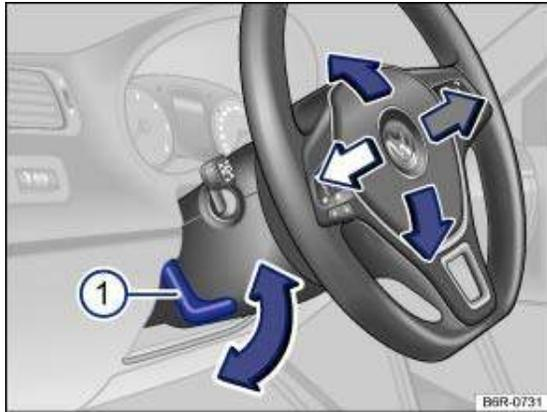

Fig. 45 Adjusting the steering wheel position mechanically
- Push down the lever → *Fig. 45* .
- After adjusting the steering column, always move lever → *Fig. 45*  up so that it engages securely. This prevents the steering column from moving spontaneously while the vehicle is in motion.